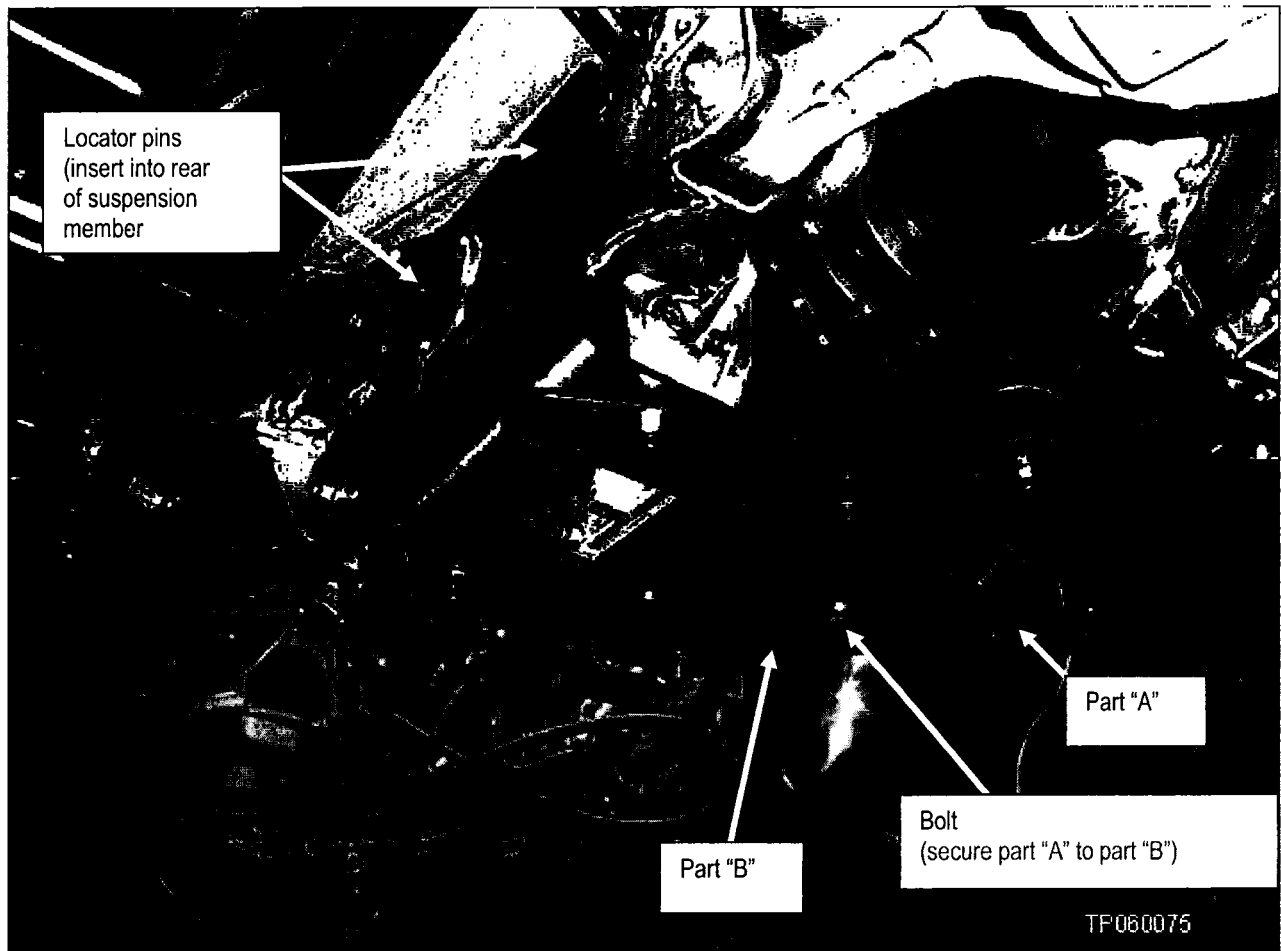

Figure 28
- b. Slide part "B" of the adapter tool over the rear of part "A". Then, insert the locator pins at the upper corners of the tool into the rear suspension member (see Figure 28).